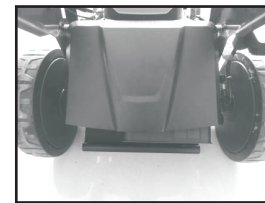

Fig.10D
3. Lower the rear cover. (Fig.10D)